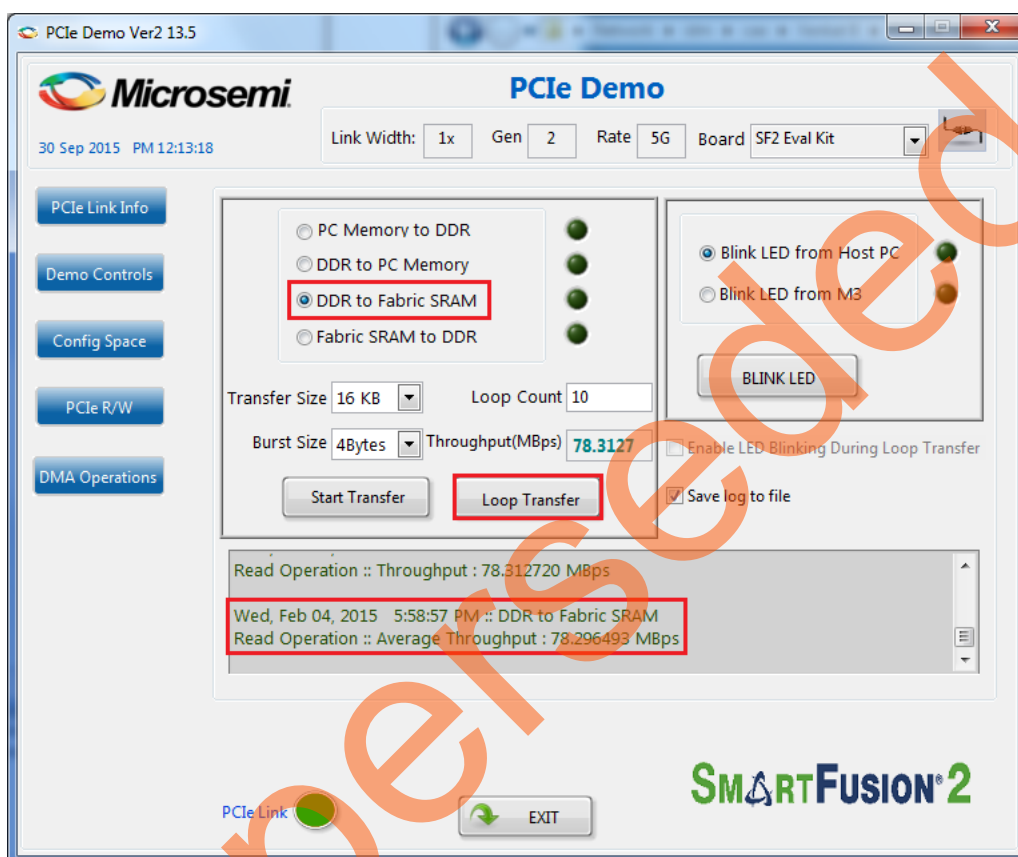

Figure 20 • LPDDR to PC Memory Transfer Throughput
8. Enter 10 in the **Loop Count** box and click **Loop Transfer** to perform 10 sequential DMA transactions. The PCIe_Demo window displays the DMA throughput after completion of data transfer. Figure 20 shows the throughput of DMA transactions from host PC to LPDDR. The average throughput is logged and the log file is stored at C:\PCIe_Demo\DriverInstall in the host PC.
9. Select the type of DMA transfer as LPDDR to **Fabric SRAM**, select any **Transfer Size** and click **Loop Transfer** as shown in Figure 20.